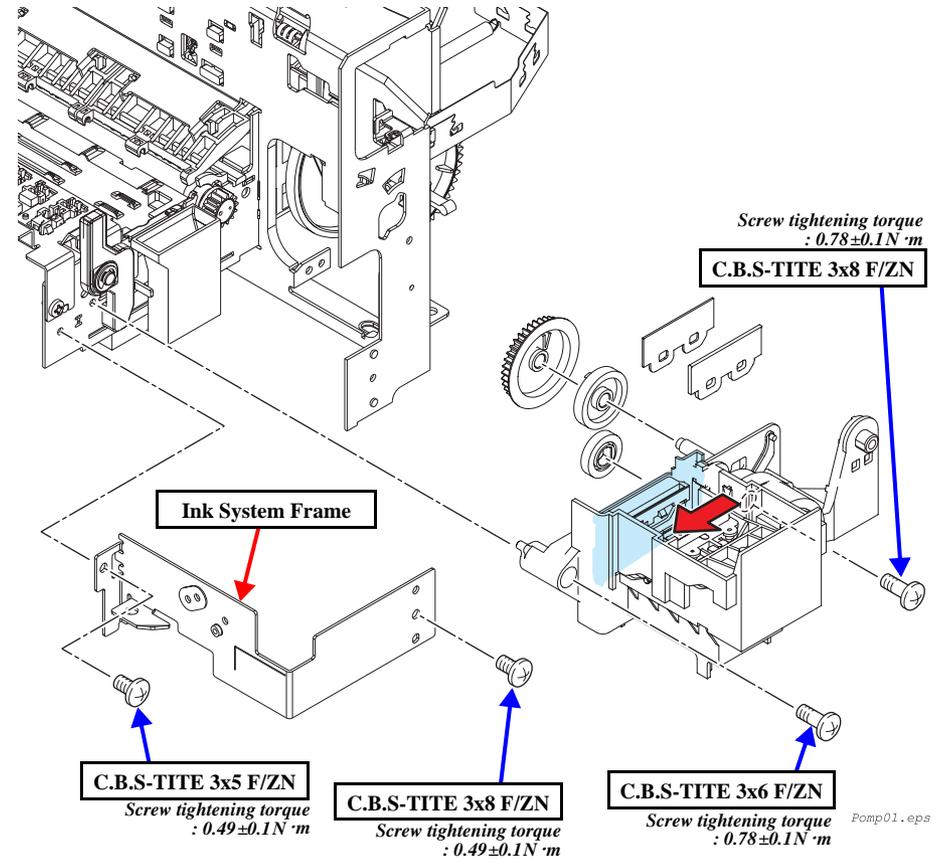

Figure 4-19. Pump Unit Removal
- Install a gear seeing Figure 4-19. When it is rotated, Wiper ASSY shall move smoothly.